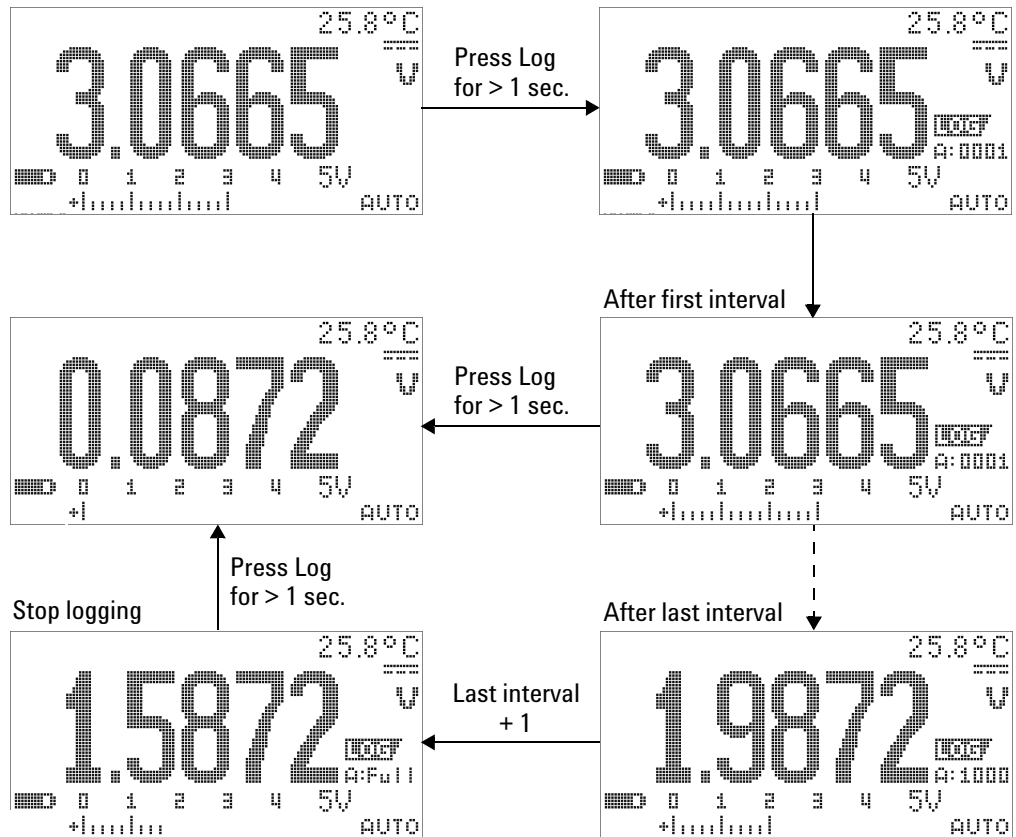

Figure 3-10 Interval (time) logging mode operation
- 1 Press  for more than 1 second to store the present value and function on the primary display into the non-volatile memory. The  and the logging index will be indicated. Subsequent readings are automatically logged into the memory at the interval (LOG TIME) specified in Setup mode. Refer to Figure 3-10 on page 78 for how to operate this mode.